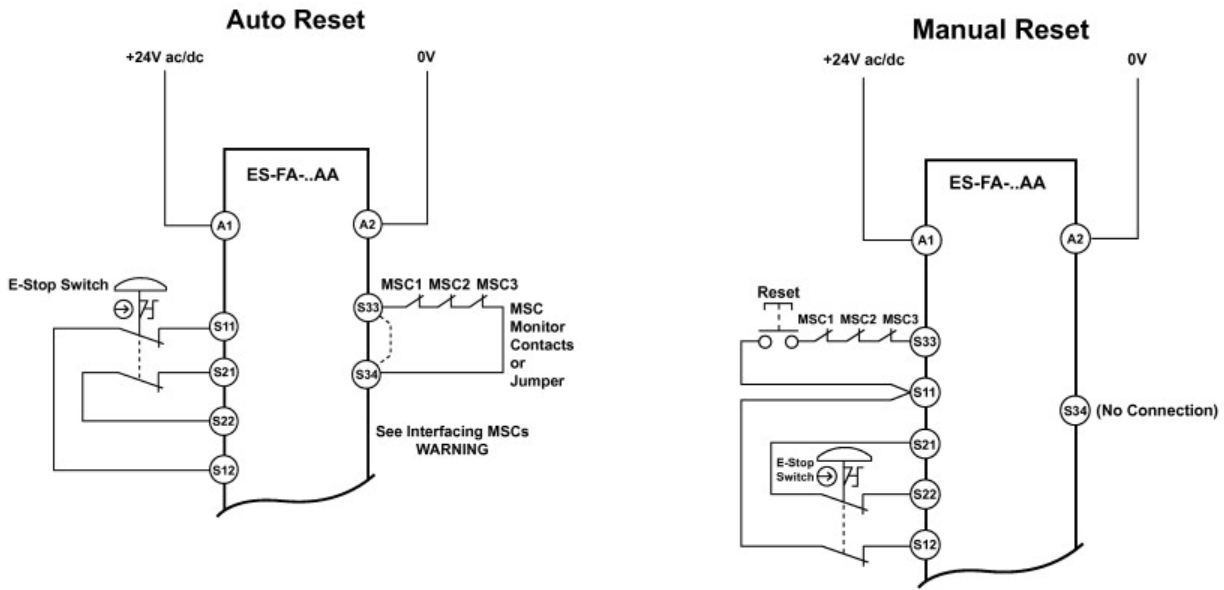

Figure 4: Hookup; Dual-channel E-stop applications
3. Apply power to the Safety Module at terminals A1 and A2 (see Figures 4, 5, 6, and 7). Verify that only the Input Power indicator (Figure 1) is ON. If either input channel 1 (K1) or input channel 2 (K2) indicators are ON at this point, disconnect the input power and check all wiring. Return to step 2 after the cause of the problem has been corrected.